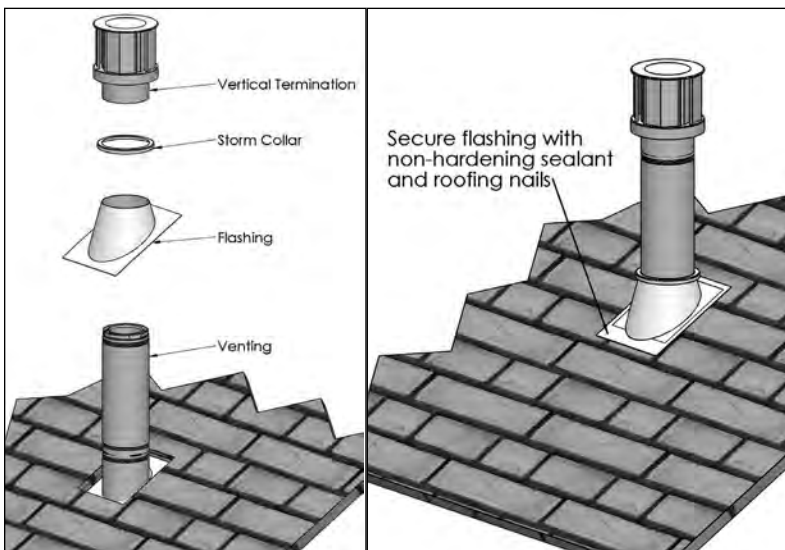
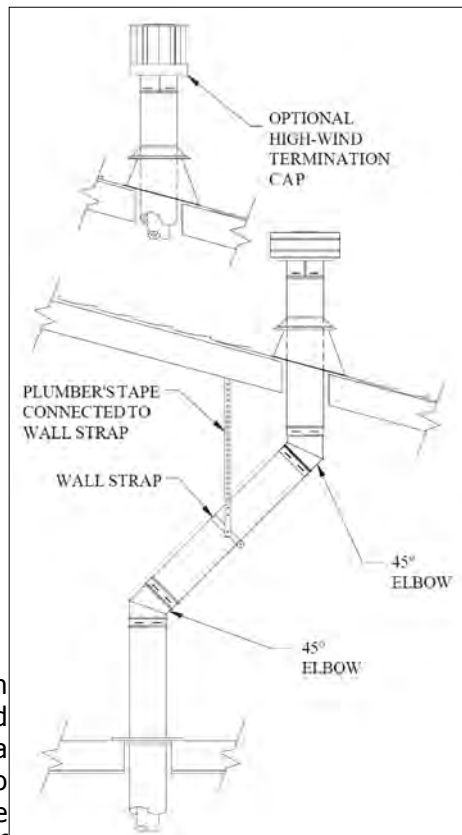

Figure 37: Installation of Flashing & Vertical Termination.
Figure 36: Vertical Installation using Wall Straps.
- (1) If an offset is necessary in the attic to avoid obstructions, it is important to support the vent pipe every 3 feet, to avoid excessive stress on the Elbows, and possible separation. Wall Straps are available for this purpose (see Figure 36).
- (2) Whenever possible, use 45° Elbows, instead of 90° Elbows. The 45° Elbow offers less restriction to the flow of flue gases and intake air.
Step 6. Slip the flashing over the Pipe Section(s) protruding through the roof. Use a non-hardening sealant between the Flashing and the roof to prevent water leakage. Secure the base of the Flashing to the roof with roofing nails. Ensure the roofing material overlaps the top edge of the Flashing as shown in Figure 37. Verify that you have at least the minimum clearance to combustibles at the roofline.